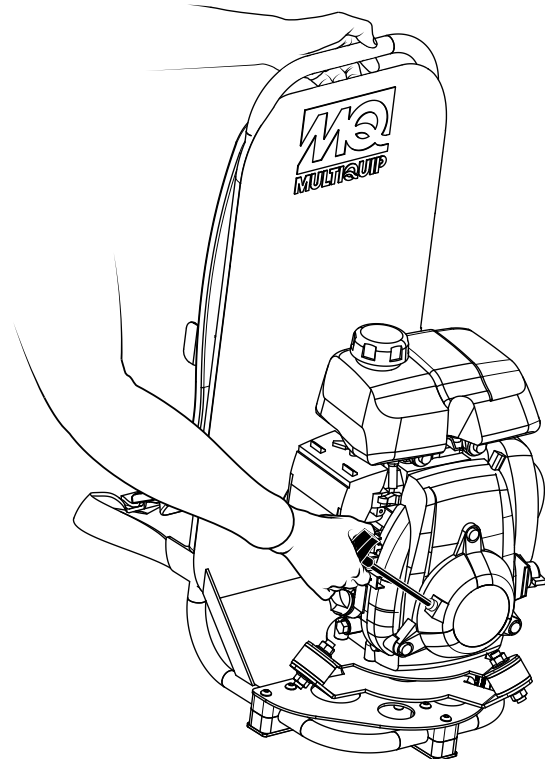

Figure 14. Starter Grip
7. Slowly pull the starter grip (Figure 14) until resistance is felt, then pull briskly and smoothly to start the engine. Gently return the starter grip to its original position.